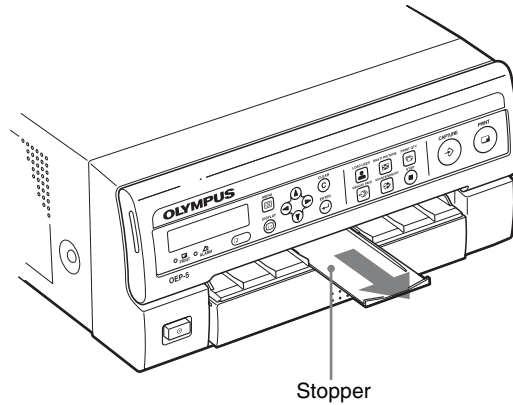

Figure 3.16
- 6** Pull out the stopper of the paper tray until it clicks (see Figure 3.16).